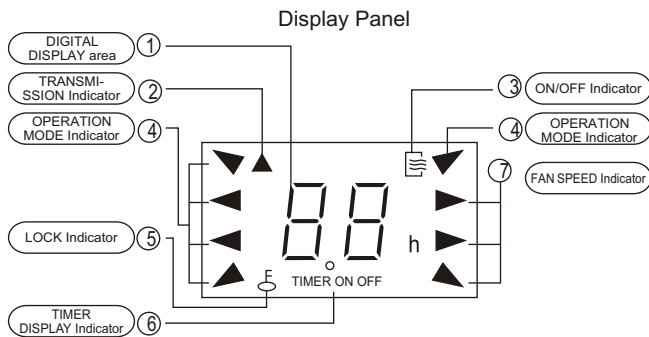

Fig. 2
- ① **DIGITAL DISPLAY area:** This area will show the set temperature and, if in the TIMER mode, will show the ON and OFF settings of the TIMER. If in the FAN mode, nothing is appeared.
- ② **TRANSMISSION Indicator:** This indicator flashes one time when remote controller transmits signals to the indoor unit.
- ③ **ON/OFF Indicator:** This symbol appears when the unit is turned on by the remote controller, and disappear when the unit is turned off.
- ④ **OPERATION MODE Indicator:** When press the MODE button, it shows the current operating mode -- "AUTO", "COOL", "DRY", "HEAT"(Cooling only model without) , or "FAN" mode.
- ⑤ **LOCK Indicator:** LOCK display is displayed by pushing the LOCK button. Push the LOCK button to clear display.
- ⑥ **TIMER DISPLAY Indicator:** This display area shows the settings of the TIMER. That is, if only the starting time of operation is set, it will display the TIMER ON. If only the turning off time of operation is set, it will display the TIMER OFF. If both operations are set, it will show TIMER ON-OFF which indicates you have chosen to set both the starting time and off time.
- ⑦ **FAN SPEED Indicator:** Press the FAN SPEED button to select the desired fan speed setting (Auto-Low-Med-High). You selection will be displayed in the LCD window except the Auto fan speed.
**▲ NOTE:** All signs shown in the Fig.2 is for the purpose of clear presentation. But during the actual operation only the relative functional signs are shown on the display panel.